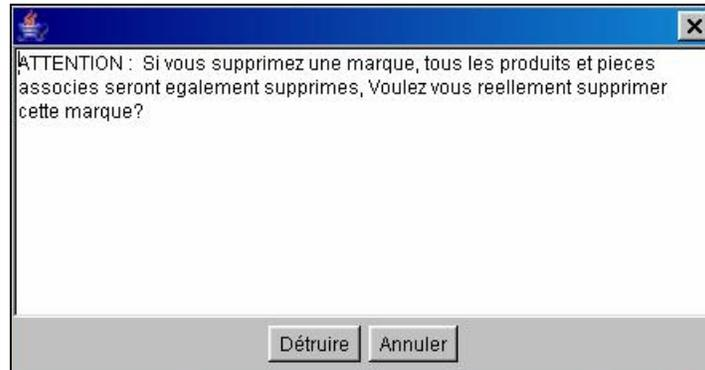

Figure 3: Deleting a marque
- Select a group, then the marque to be deleted in the **Sundries** window. Click on the **Delete...** button. A dialogue box appears (figure 3).